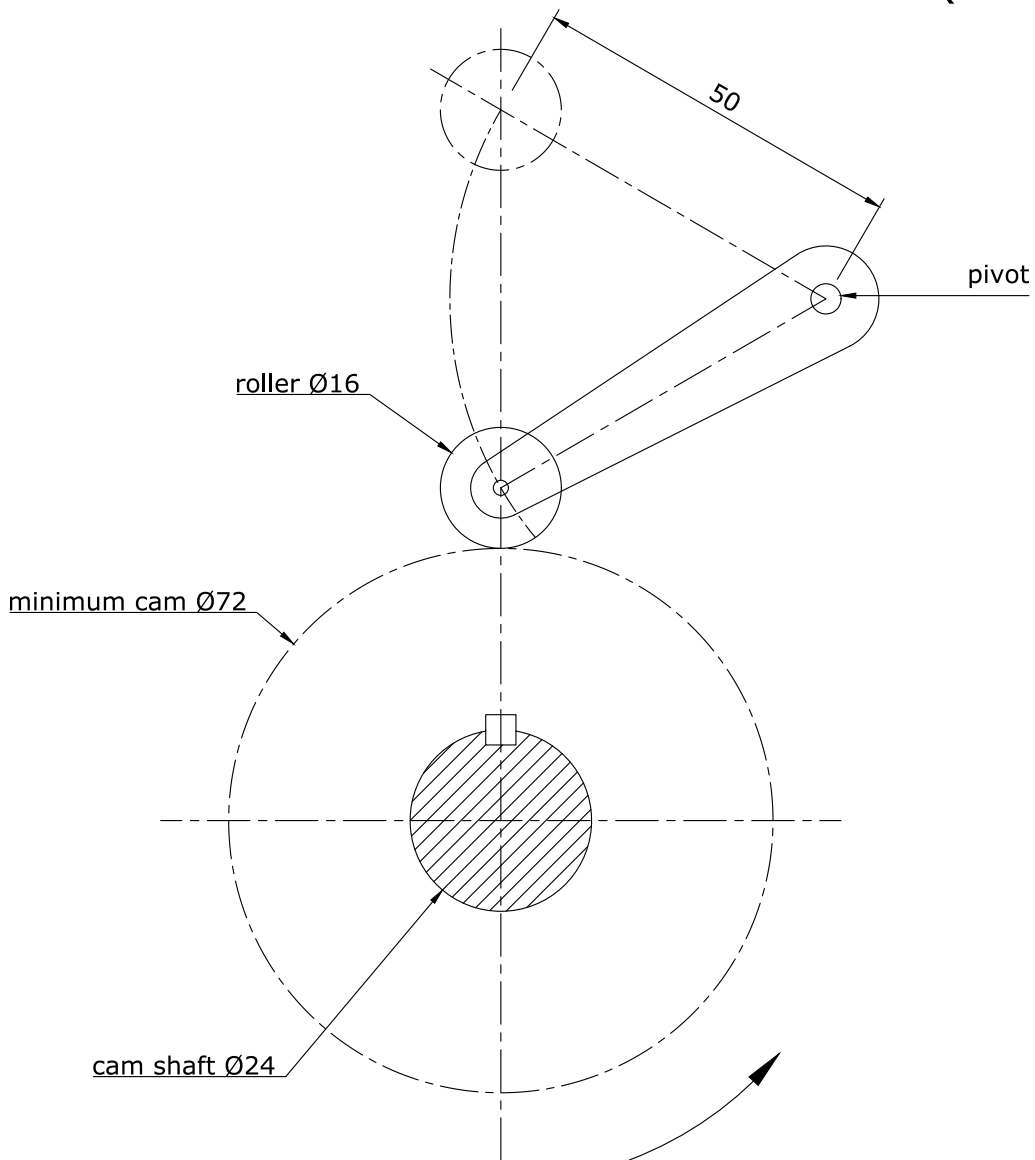

Figure 2
The starting lines for a disc cam, radial arm and roller follower are given in Figure 2. The follower starts at the given position. The minimum distance between the roller centre and the cam centre is 44 mm.
| a. copy Figure 2; | (2) |